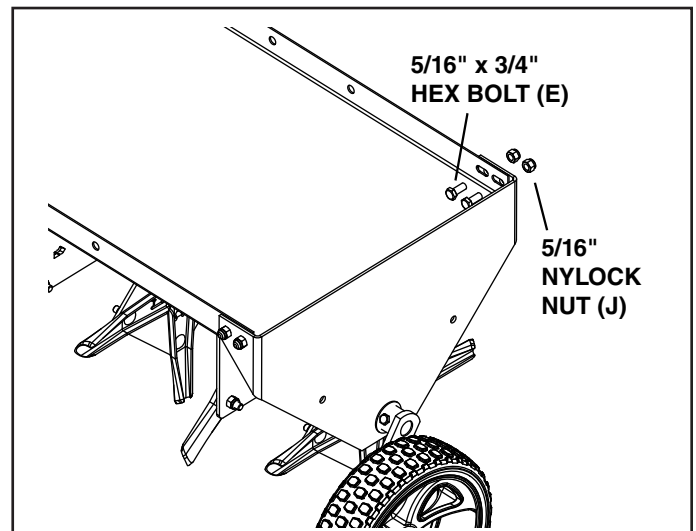

FIGURE 10
- Fasten the end plates to the corners of the tray using, from the inside, eight 5/16" x 3/4" hex bolts (E) and 5/16" nylock nuts (J). See figure 10. **Do not tighten till step 17.**